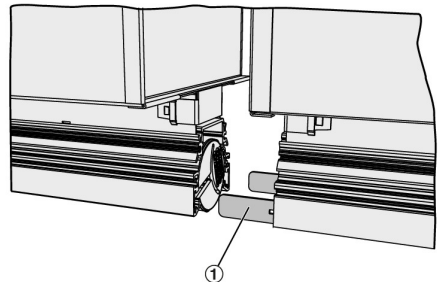

Fig. 9: Linking slot diffusers
- ▶ The supplied alignment plates (Fig. 9/1) help you align slot diffusers for a continuous linear arrangement.